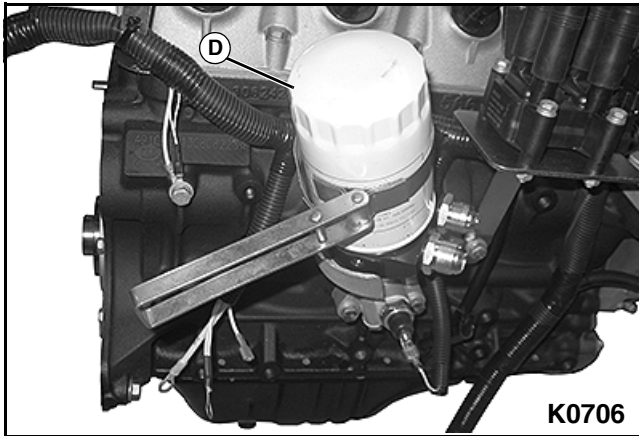

Figure 5-5
4. Using an oil filter wrench, remove the old oil filter (D). **See Figure 5-5.**